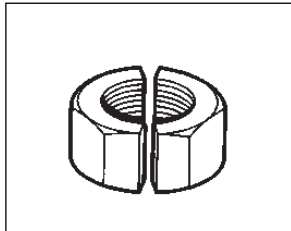

Fig. 10, Making Two Cuts
12. If necessary, a second cut may be applied, at 180° to the first, completely severing the nut in half. See Figure 10.